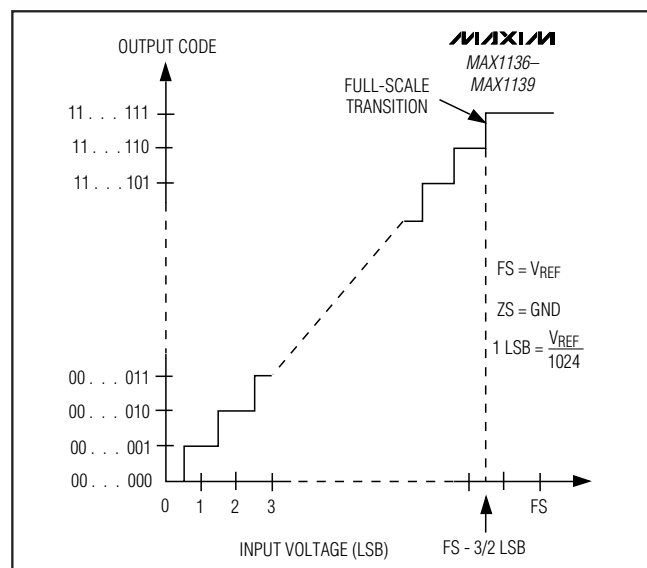
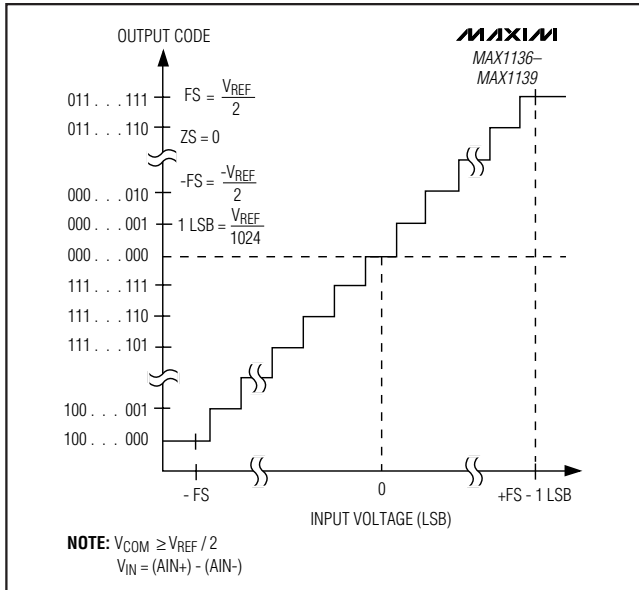

Figure 12. Unipolar Transfer Function
Figure 13. Bipolar Transfer Function
Output data coding for the MAX1136–MAX1139 is binary in unipolar mode and two's complement in bipolar mode with 1 LSB = (V_{REF}/2^N) where 'N' is the number of bits (10). Code transitions occur halfway between successive-integer LSB values. Figure 12 and Figure 13 show the input/output (I/O) transfer functions for unipolar and bipolar operations, respectively.